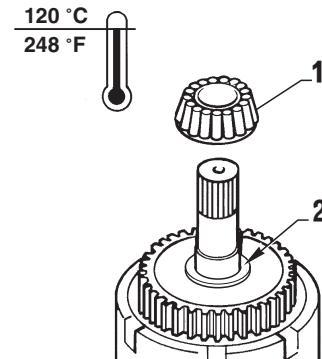

FIG. 1-4
Heat inner race of tapered roller bearing (item 1 Fig. 1-4) to approx. 120 °C (248 °F) and push onto input shaft. After cooling down, press bearing carefully against button ring (item 2, Fig. 1-4) by means of a sleeve and a manual press or a copper brass punch.